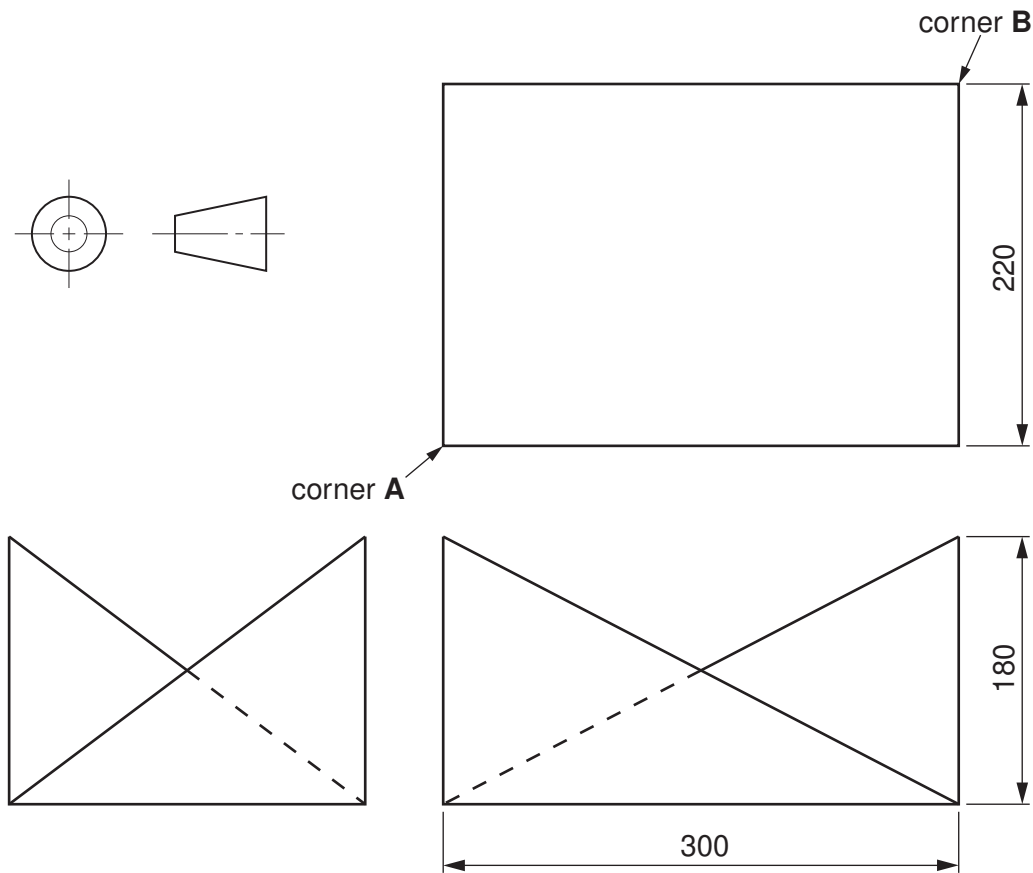

Fig. 3
- 3 Fig. 3 shows a tray to be made in a school workshop.